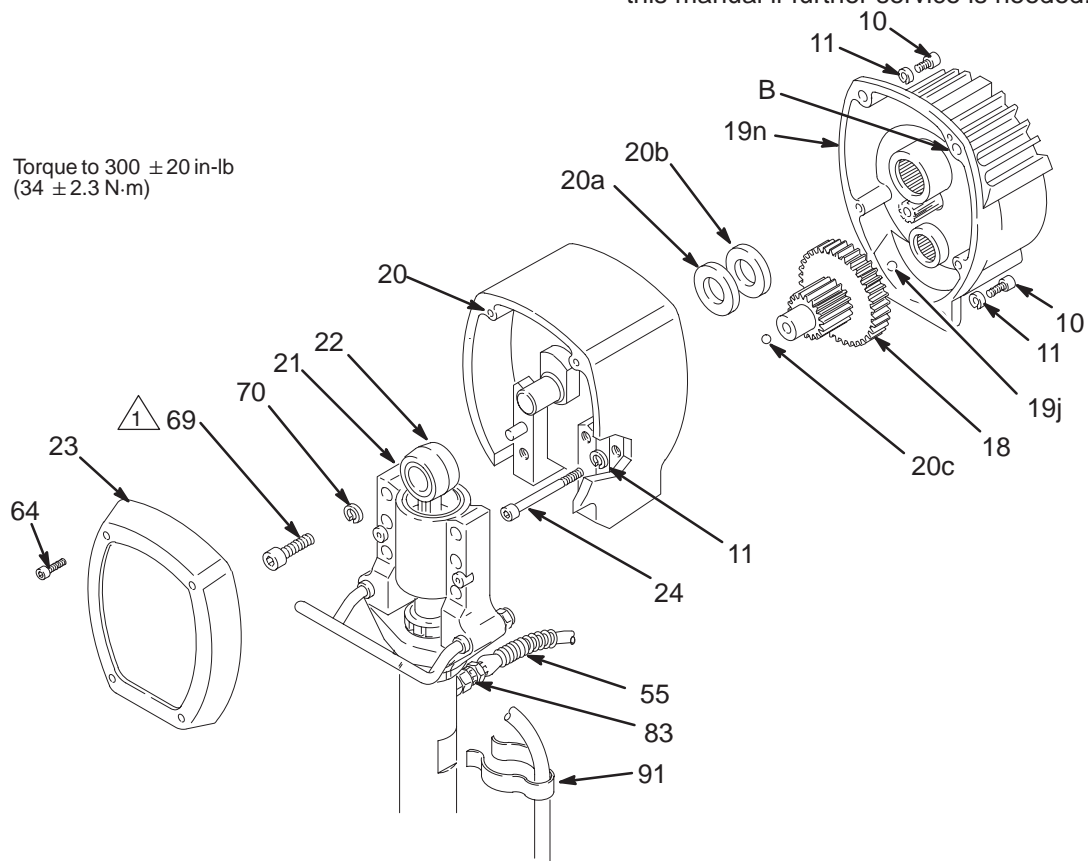

Fig. 12
**NOTE:** Refer to Fig. 12 for this procedure.
1. Remove the front cover (23).
2. Disconnect the hose (55) from the pump nipple (83). **For the upright carts only**, detach the drain hose (91) from the pump.
3. Remove the four screws (69) and lockwashers (70) from the bearing housing (21).
5. Remove the two screws (24) and lockwashers (11). Remove the four screws (10) and lockwashers (11).
6. Lightly tap around the drive housing (20) with a plastic mallet to loosen it from the pinion housing (19n).